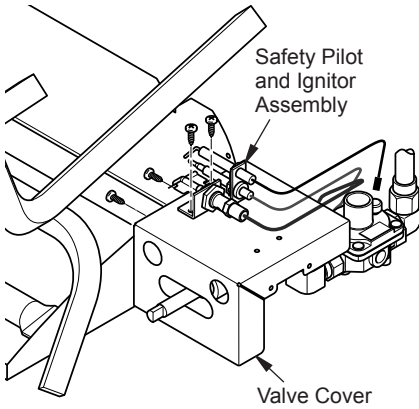

Figure 15A
12. Install valve cover to burner pan using self tapping screws as shown in Figure 15A.
13. Install safety pilot and piezo ignitor onto baffle panel using self tapping screws as shown in Figure 15A and 15B.